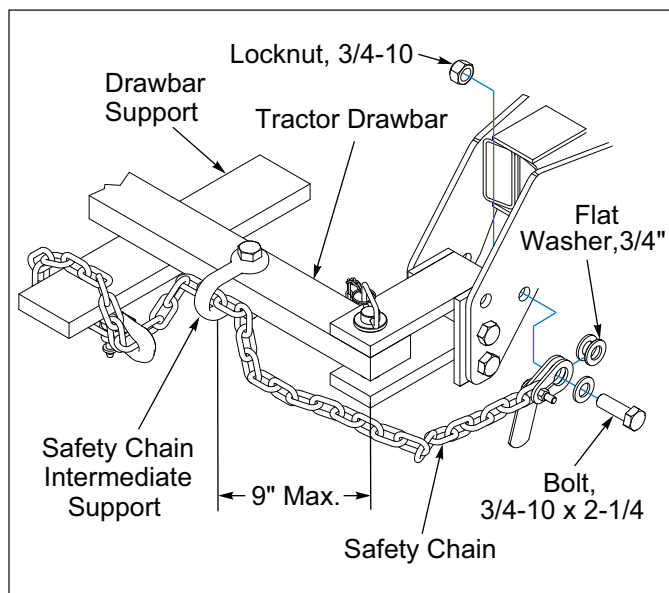

Figure 3-5: Safety Chain
4. Attach Safety Chain to tractor allowing plenty of movement for turning both directions. The Safety Chain should latch securely to prevent it from coming loose. **See Figure 3-5.**
2. Raise the Seeder fully to extend the Hydraulic Lift Cylinders and rotate the Transport Locks in the engaged position over the Cylinder Rod. Secure with the Clevis Pins and Hairpin Cotter. **See Figure 3-5.**
3. If not already done, raise Seeder fully to extend the Hydraulic Lift Cylinders and rotate the Transport Locks in the engaged position over the Cylinder Rod. Secure with the Clevis Pins and Hairpin Cotter. **See Figure 3-5.**
1. Raise the Seeder fully to extend the Hydraulic Lift Cylinders and rotate the Transport Locks to the engaged position. Secure with the Clevis Pins and Hairpin Cotter. **See Figure 3-5.**
7. Raise the Seeder and install Transport Locks. **See Figure 3-5.**